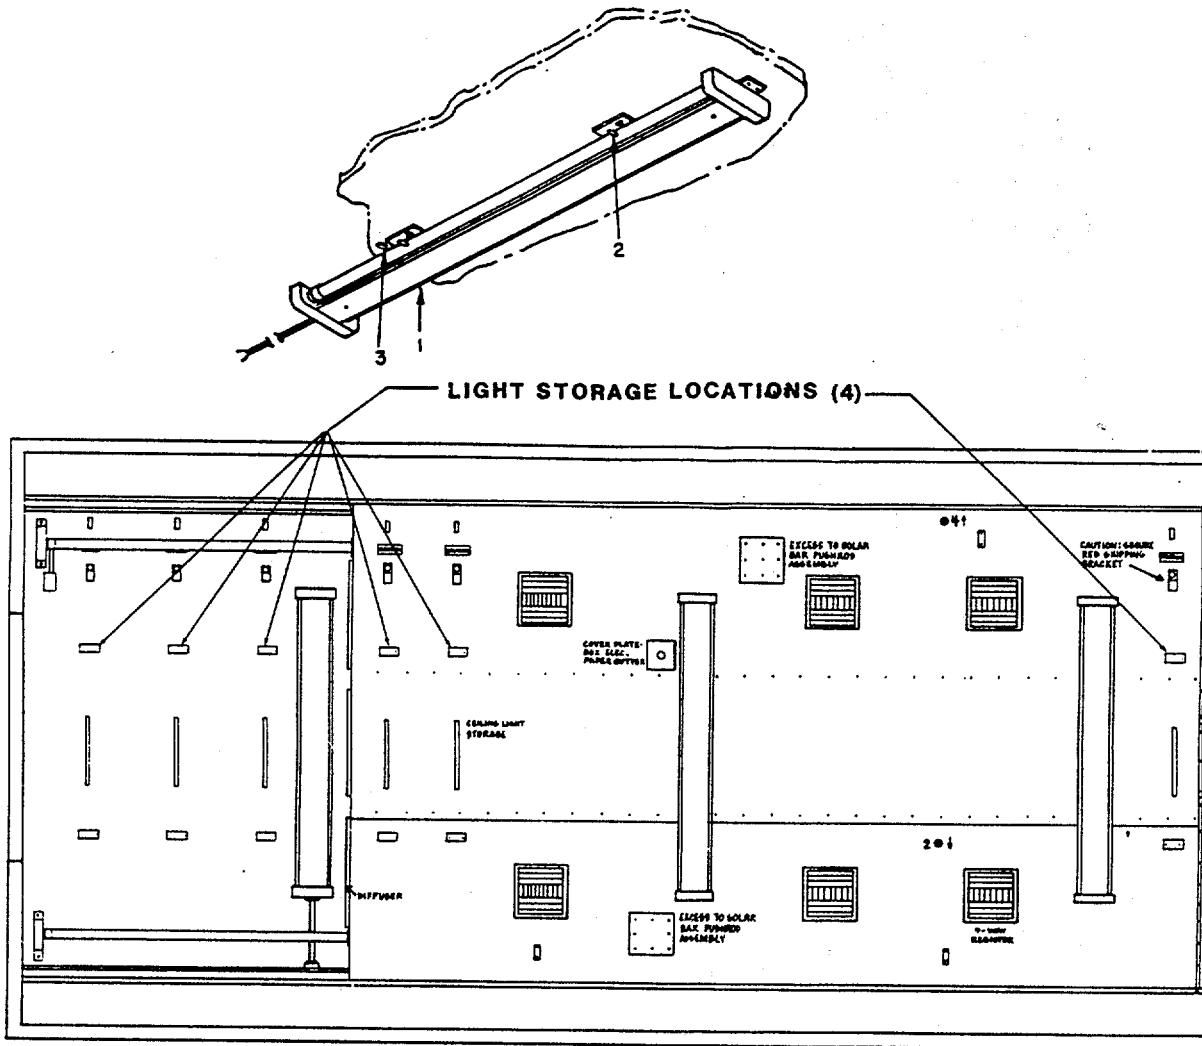

Figure 2-13. Ceiling Light Assemblies, Stored Location (View Looking up at Ceiling)
- (8) Ceiling light assemblies. Refer to Figure 2-13 and remove ceiling light assemblies (1) from their ceiling storage brackets (2) by rotating safety release bracket (3) and sliding the light assembly over the button to allow the assembly to drop from its mounting stubs. Install the lights onto the expanded shelter section ceilings. Connect electrical cord from each light assembly to the ceiling receptacles. Light storage locations (4) are shown in Figure 2-13.